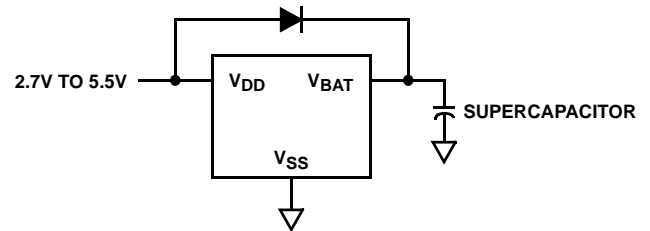

FIGURE 28. SUPERCAPACITOR CHARGING CIRCUIT
- Mode C - In this mode the selection bits indicate a low VDD switchover combined with no communications in battery backup. Operation is actually identical to Mode A with I2C communications down to VDD = VRESET, then no communications (see Figure 28).